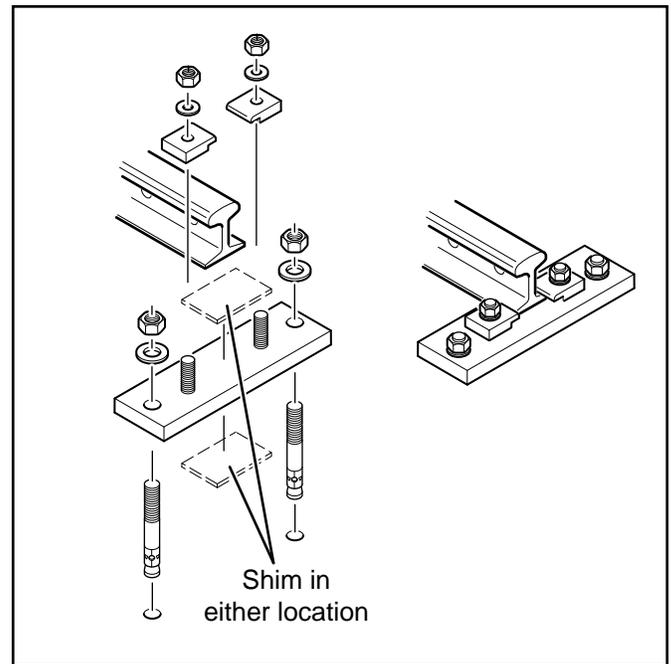

Figure 2.6 Rail Anchor
2. Install rail anchor clips, lock washers, and nuts. Shims may be used to obtain the correct elevation of the rail clips. See Figure 2.6.